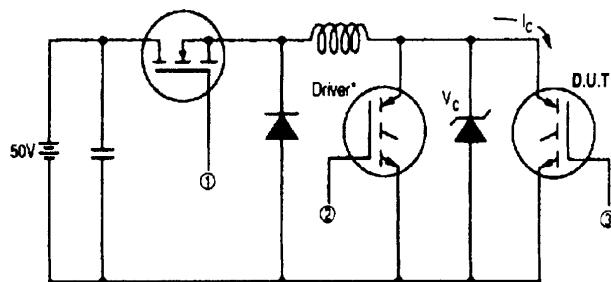

Fig 13a. Switching Loss Test Circuit
② $V_{CC} = 80\%$ (V_{CES}), $V_{GE} = 20\text{V}$, $L = 10\mu\text{H}$, $R_G = 10\Omega$. (See Fig. 13a).
③ Pulse width $\leq 5\mu\text{s}$, single shot.